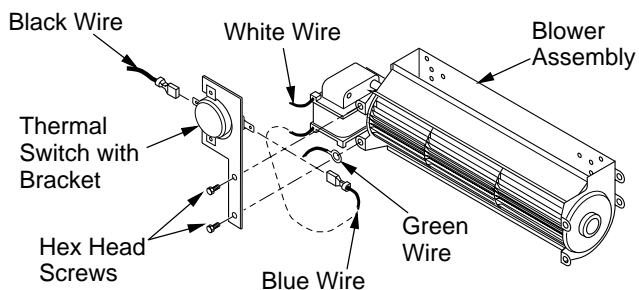

Figure 14 - Attaching Thermal Switch to CDA3620T Thermostatically-Controlled Blower Accessory
1. Remove the two hex head screws on the blower assembly as shown in Figure 14.